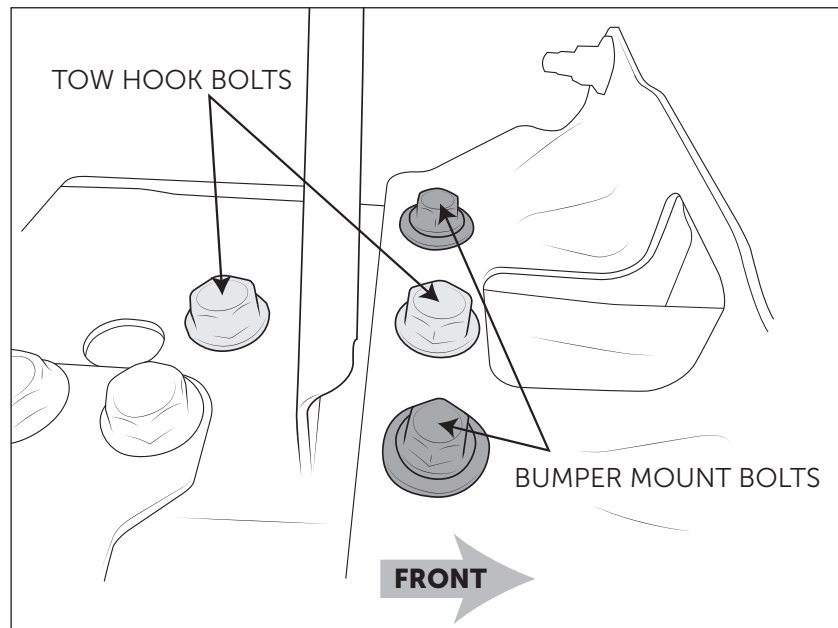

Figure 3
3. Remove the factory tow hooks (if equipped) by removing the four M16 bolts (2 per side) and SAVE hardware for later use. Remove the four M12 bolts (2 per side) holding the factory front bumper to the frame rail and SAVE for later use (fig. 3). Carefully remove the bumper. Having a helper is recommended.